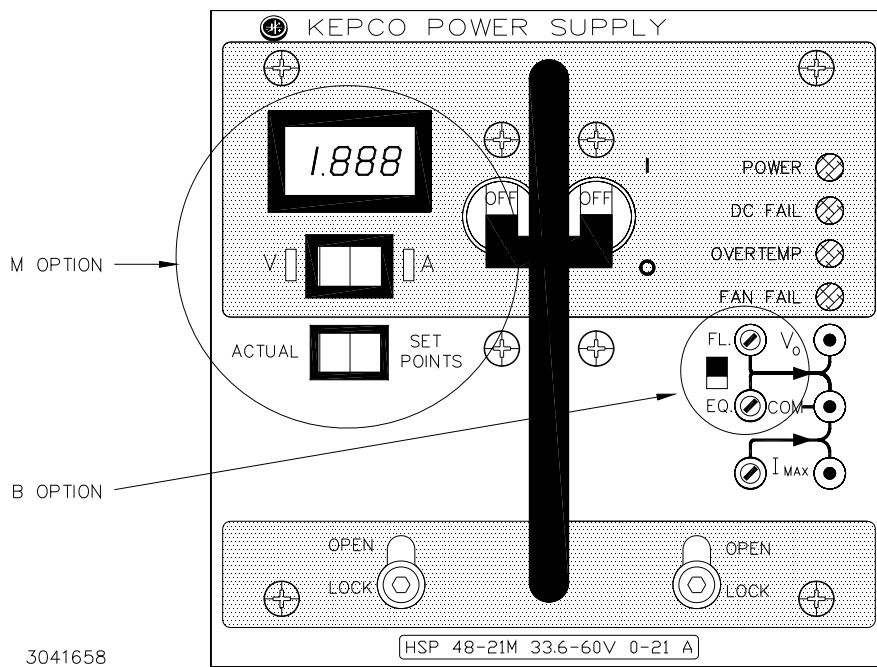

FIGURE 3-7. HSP M (METER) OPTION AND B (BATTERY CHARGER) OPTION, FRONT PANEL
HSP series power supplies are available with a meter option ('M' suffix) which incorporates a 3½ digit LED meter display on the front panel. The meter provides both voltmeter and ammeter functions. The V-A rocker switch directly below the meter (Figure 3-7) selects either output voltage (V) or module current (A) as the normally-displayed parameter. The associated LED, either V or A, lights to show the selected switch position. When depressed, the ACTUAL/SETPOINTS momentary-contact switch located below the V-A selector switch causes the meter to display the programmed value of output voltage or current limit, as selected by the V-A switch. The opera-
When the Float-Equalize switch is set to FL (see Figure 3-7), the Float potentiometer adjusts the output voltage; when set to EQ, the Equalize potentiometer adjusts the output voltage. The FL-EQ position also determines which voltage is available at test point Vo. CAUTION: Adjusting the non-selected potentiometer (e.g., FL potentiometer with switch set to EQ) can have adverse effects, because an unknown output voltage will be applied to the load when the switch position is changed. The fault detector window is altered to accommodate the normal range of battery voltage from fully discharged to peak equalize charge as shown in Table 3-3.: